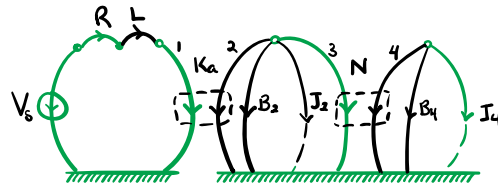

Figure exe.3: A linear graph model with normal tree in green of an electromechanical system with a gear reduction.
Consider the linear graph model (with normal tree) of Fig. exe.3. This is a model of a motor with constant K_a connected to a pair of meshing gears with transformer ratio N , the output over input gear ratio. An ideal voltage source drives the motor—modeled as an ideal transducer with armature resistance R and inductance L . The motor's rotational mechanical side (2) is connected to a moment of inertia J_2 modeling the rotor and drive gear combined inertia. The damping element B_2 models the internal motor damping and the drive gear bearing damping. The output side of the gear transducer (4) is connected to a moment of inertia J_4 modeling the output gear and load combined inertia. The damping element B_4 models the internal motor damping and the drive gear bearing damping. Use the parameter values given in Table exe.1.